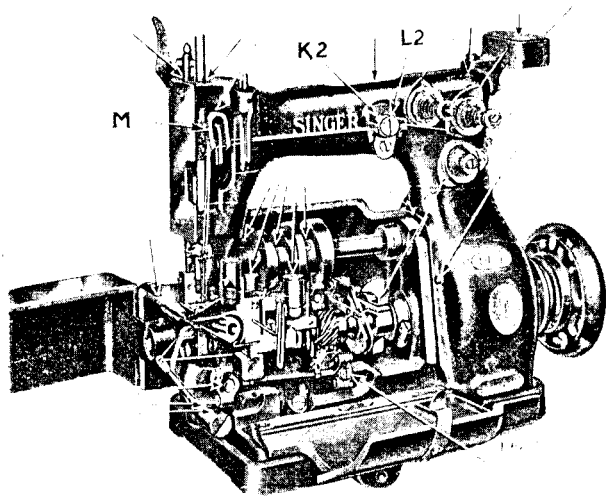
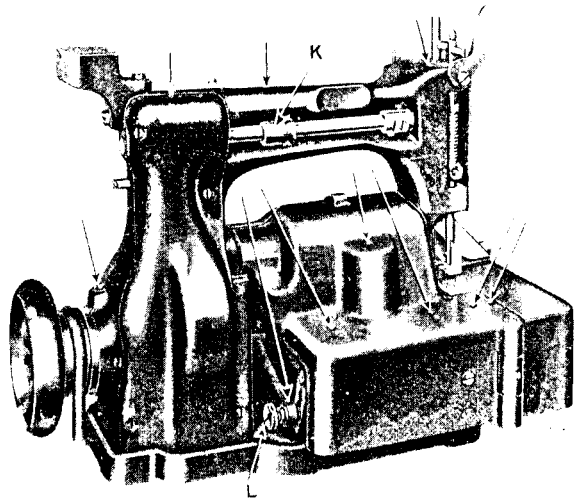

FIG. 2. OILING POINTS AT THE FRONT OF THE MACHINE.
FIG. 3. OILING POINTS AT THE BACK OF THE MACHINE.
Apply oil to each of the oil holes and bearings indicated by arrows in Figs. 2 and 3. The mechanism in the bed of the machine is accessible for cleaning and oiling after turning aside the two hinged covers at the front and side of the bed.
The length of stitch is regulated by the movable connection which is held in position by the thumb nut (L, Fig. 3, page 4) in the slotted lever at the back of the machine. To lengthen the stitch, loosen the thumb nut (L) and move it upwardly. To shorten the stitch, move this thumb nut downwardly. The shortest stitch which can be produced by the machine is 18 to the inch. When the desired length of stitch is obtained, securely tighten the thumb nut (L).
The nipper (L2, Fig. 2, page 4) should be timed by means of the nipper cam (K, Fig. 3) so that it commences to open when the top of the needle bar has risen $\frac{3}{4}$ inch above the casting. The nipper should close when the points of the needles reach the bottom edge of the looper on the downward stroke of the needle bar.
The duration of nip or length of time the nipper holds the threads must be regulated according to the quality of thread being used. To shorten the duration of nip, loosen the lock nut (K2, Fig. 2) and turn the screw stud (L2, Fig. 2) inwardly. To lengthen the duration of nip, turn this screw stud outwardly. When the nipper is correctly set, securely tighten the lock nut (K2).
Care must be taken to see that the lock nut (K2, Fig. 2) is loose before using a screwdriver on the screw stud (L2, Fig. 2). Never tighten the nipper body by means of the screw stud (L2). Always tighten the nipper body by means of the lock nut (K2), using the wrench provided for the purpose.
The size of the loop of the cotton thread is controlled by raising or lowering the thread take-up (M, Fig. 2, page 4). To decrease the size of the loop, set the thread take-up higher. To increase the size of the loop, set the thread take-up lower.
If the machine breaks thread, the points of the needles may be blunt or bent, or the nipper (L2, Fig. 2, page 4) may be holding the thread too long. (See page 13 for instructions covering the nipper).